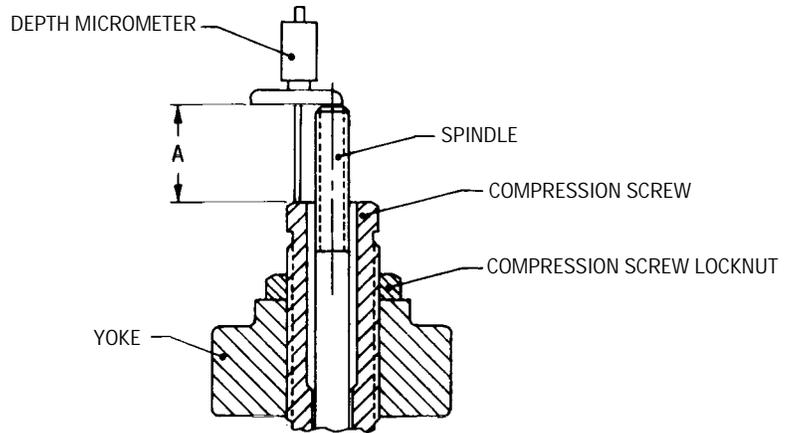

FIGURE 8
4. Refer to Figure 8 (See Page 23), and measure and record Dimension A, as this information will be required to correctly re-assemble the valve.